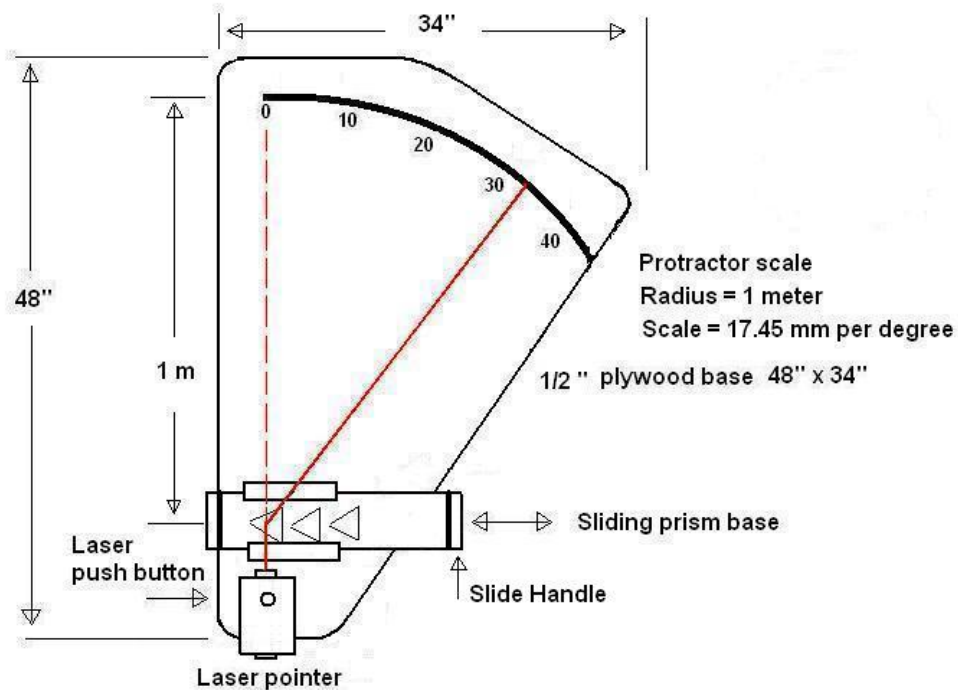

Fig 3
- ½ inch 2A plywood for base as shown in Fig 3 (4 X 8 sheet is enough for 3 bases). The extras are good if you mess one up.
NOTES AND TIPS (See Fig 3)